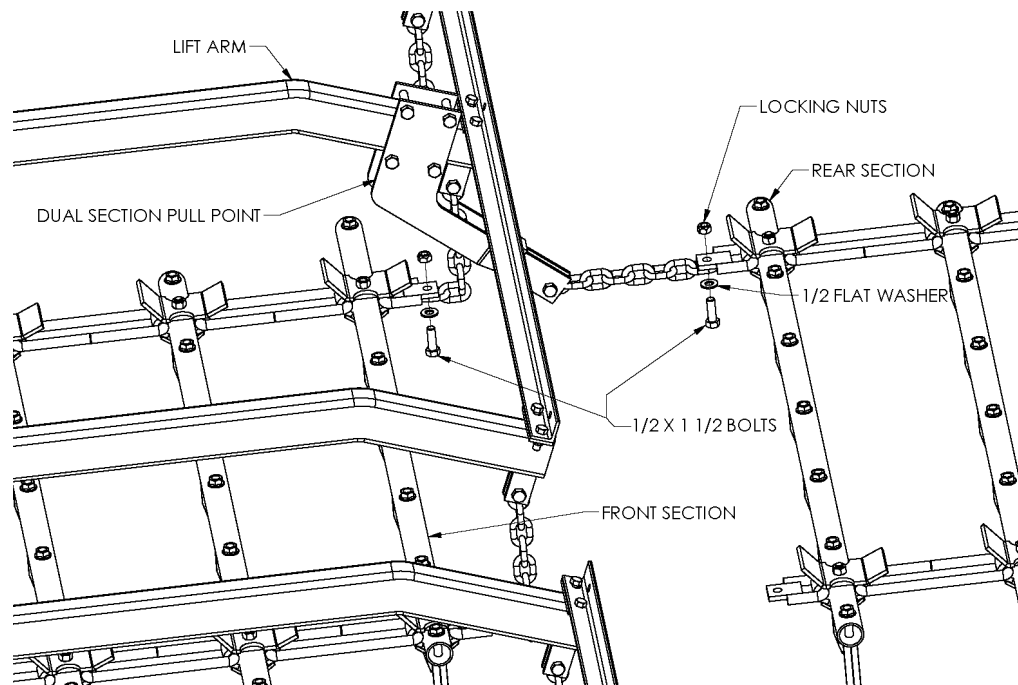

Figure 21
5. Bolt an 8-link pull chain to the end of the rear pull point assembly with a 1/2" x 2" bolt, lock washer, and hex nut. Refer to Figure 21
7. Bolt the pull chains to the front tabs on the harrow sections. Refer to Figure 21. Use 1/2" x 1 1/2" bolts and locking hex nuts. The chains should be bolted to the bottom of the pull tabs.